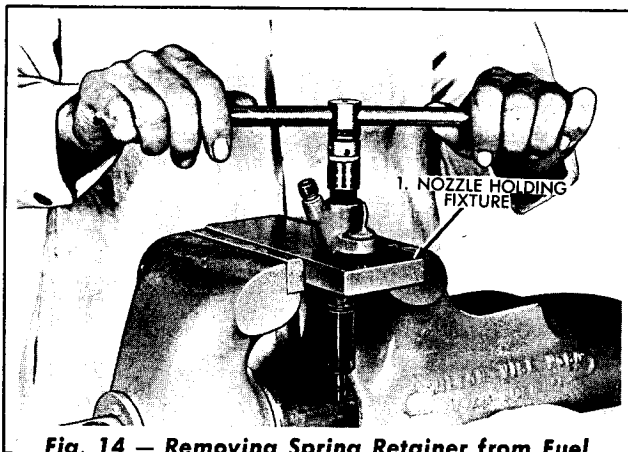

Fig. 14 — Removing Spring Retainer from Fuel Injection Nozzle Holder
- b. Place the nozzle-holder on an injection nozzle-holding fixture similar to the one shown in Fig. 14, then clamp the holding fixture in a vise.
- b. Using a 17mm socket and tee handle and an injection nozzle holding fixture similar to the ones shown in Fig. 14, remove the spring retainer. Remove the (spindle) pressure adjusting spring and spindle from the holder.